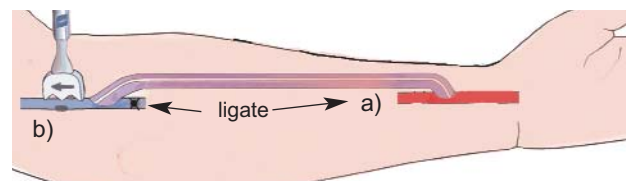

Fig. 3: Straight ePTFE Graft anastomosed to the sides of an artery and vein.
**Figs. 1-3: Non-Autogenous Prosthetic Grafts:** Loop (Figs. 1, 2) or straight (Fig. 3). PTFE grafts are constructed with inflow from the radial or brachial artery to the cephalic vein. End graft -to-side vessel anastomoses may be used to attach the prosthetic ePTFE graft to the artery and to the vein.
Air attenuates the probe's ultrasound signal and effectively blocks ultrasound transmission. Even small air bubbles can compromise measurement accuracy. Therefore, all spaces between the vessel and probe must be filled with a suitable coupling agent (Fig. 3).